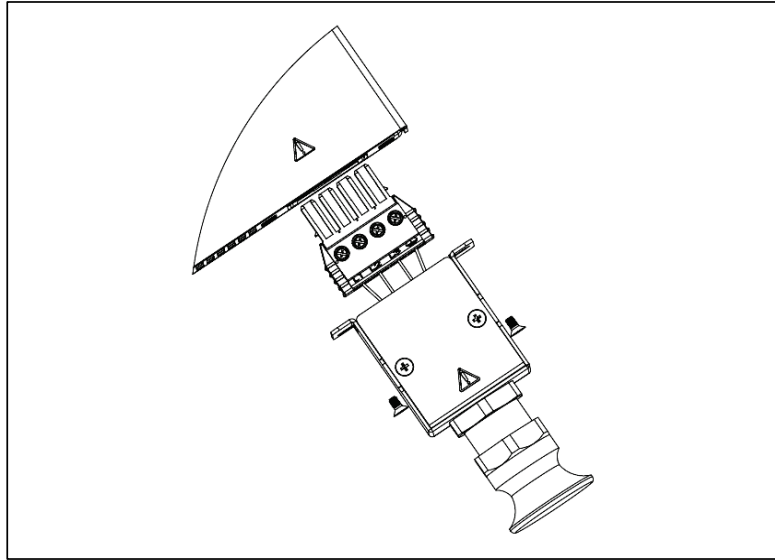

Figure 4-6: AC Wires Fixed to the AC Connector
6. Insert the AC wires into the AC input connector as shown in Figure 4-6 (3-Phase is shown, it applies to 1-Phase as well).